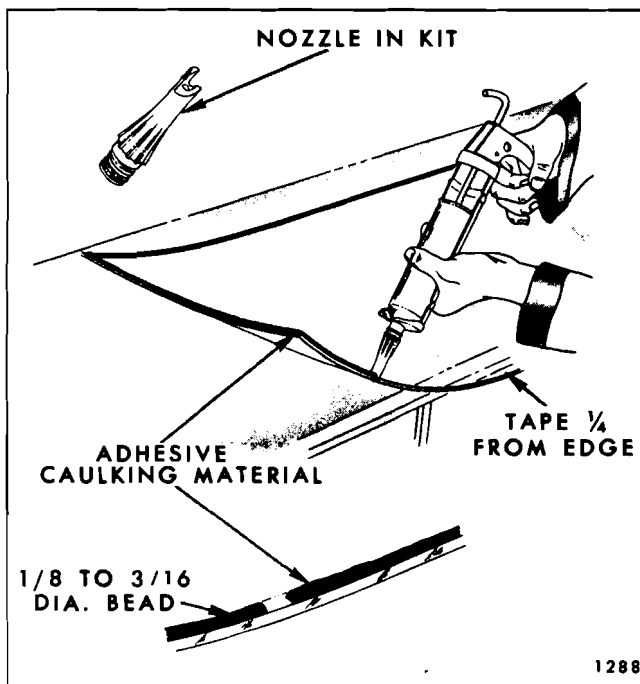

Fig. 4-6—Adhesive Material Application - Short Method
7. Apply a smooth continuous bead of adhesive caulking material around entire inside edge of glass as shown in Figure 4-6. Material should be $1/8$ " to $3/16$ " in diameter.